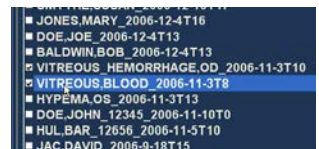

Figure 8.4 - Selecting the Second Exam
2. You can also click on the name of the exam you would like to select as shown in Figure 8.4.